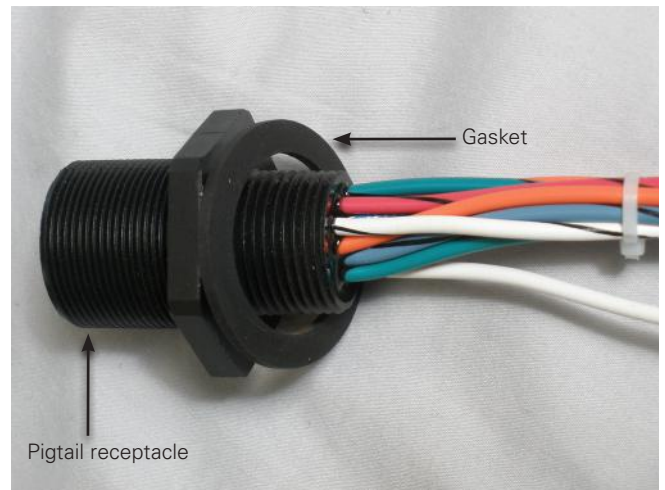

Figure 31. Gasket installed over pigtail connector.
4. Place one of the gaskets (Item 4), over the pigtail harness (Item 2) wires seating the gasket against the connector nut as shown in Figure 31.